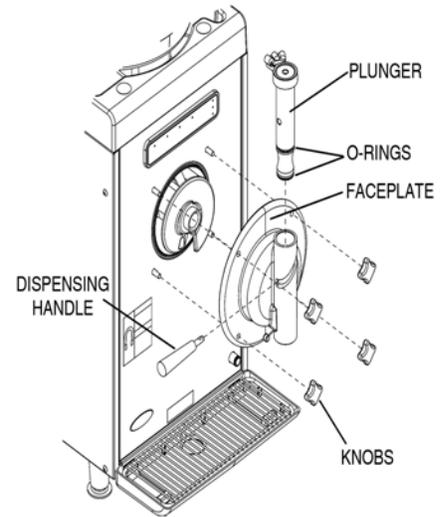

Figure 11.
4	Remove the Dispense Handle from the Plunger , by pulling it straight out of the Plunger . Figure 11.
5	Remove the Faceplate from the front panel by unscrewing the four (4) Thumb Knobs . See Figure 11.
6	Remove the Plunger from the Faceplate by pulling it out the top of the Faceplate . See Figure 11.